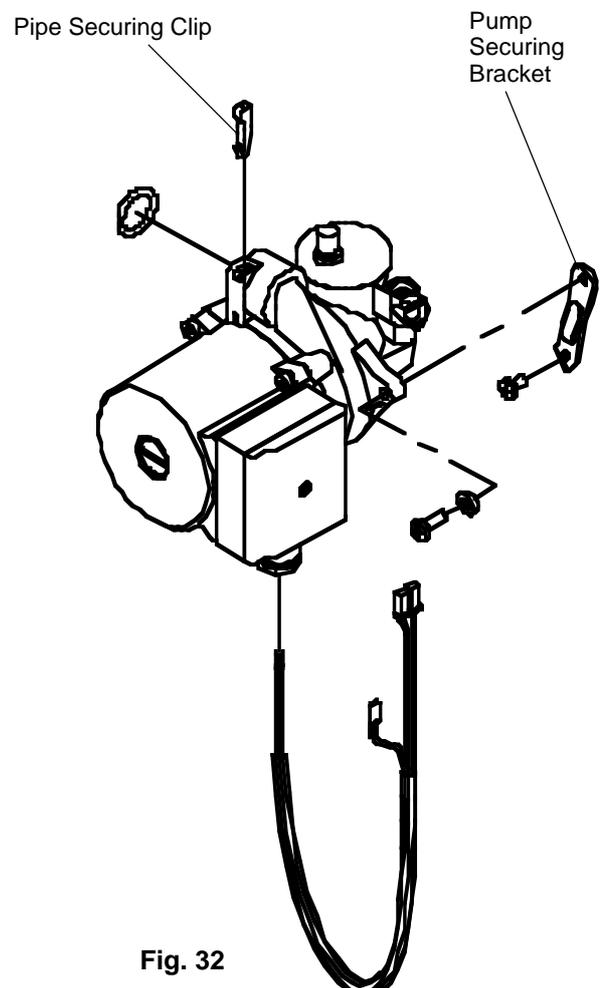

Fig. 32
- 8.14.6** Disconnect push fit pipe from pump body by releasing pump securing clip and pulling pipe free from body. See fig. 32.